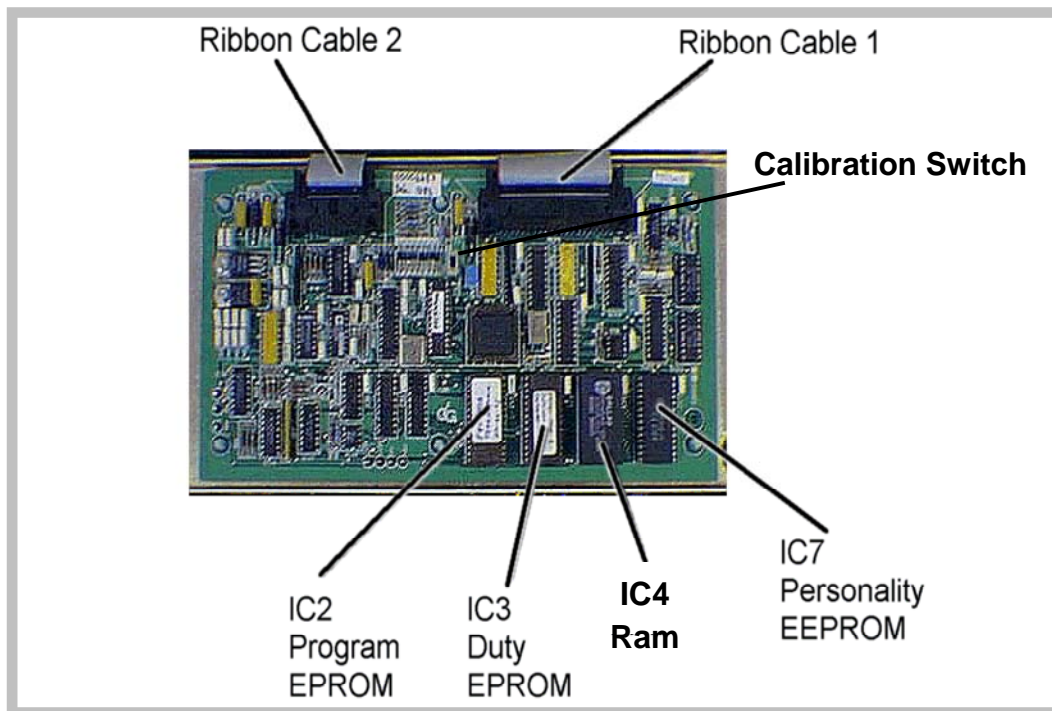

FIGURE 4.6 THE MAIN COMPUTER BOARD
The computer Unit contains three replaceable computer chips identified below and illustrated in Figure 4.6 on the next page. For any computer chip replacement, follow directions in Computer Chip Removal and Installation, page 39.
2. Refer to Figure 4.6 above. Remove chip from Computer Board with a chip removal tool.